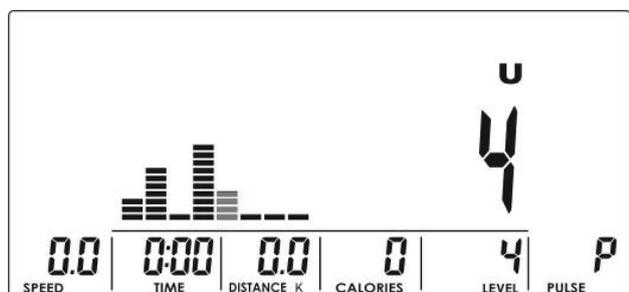

Figure 16
- (1) Select a training programme with the UP or DOWN buttons. Select U and confirm with MODE/ENTER.
- (2) Create a user profile (fig. 16) with the UP or DOWN buttons. All in all, there are eight columns. The user can set the intensity level of every column. Press MODE/ENTER for two seconds to finish it during the setting.
- (3) Enter the time with the UP or DOWN buttons.
- (4) Press START/STOP to start the training. During the training, the intensity level can be adjusted with the UP or DOWN buttons.
- (5) Press START/STOP to pause the training. Press RESET to return to the main menu.